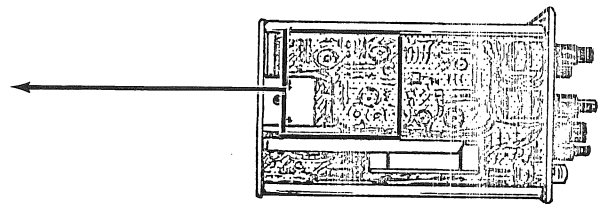

Figure 5-30
2. Adjust R-194 (see figure 5-30) to position the trace to graticule center.